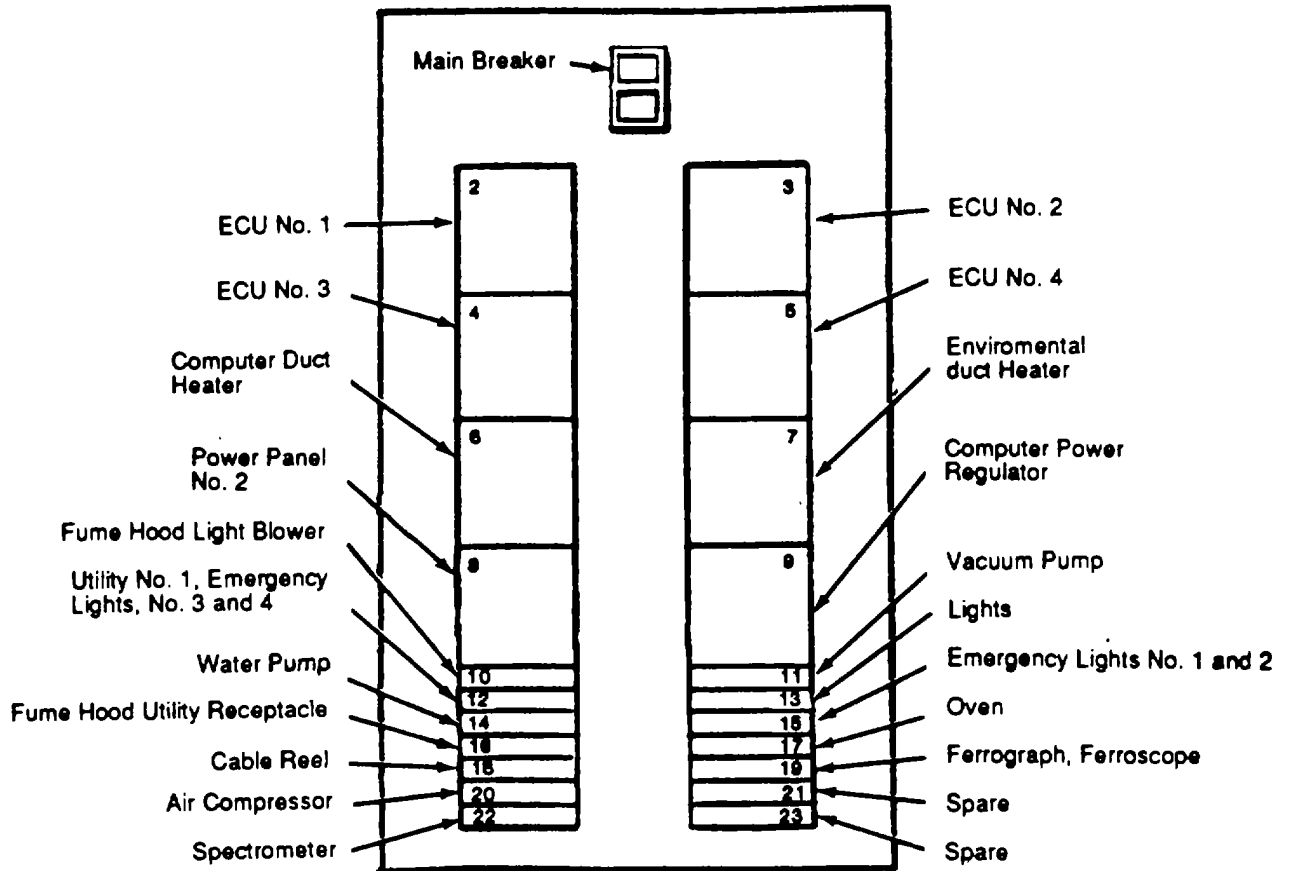
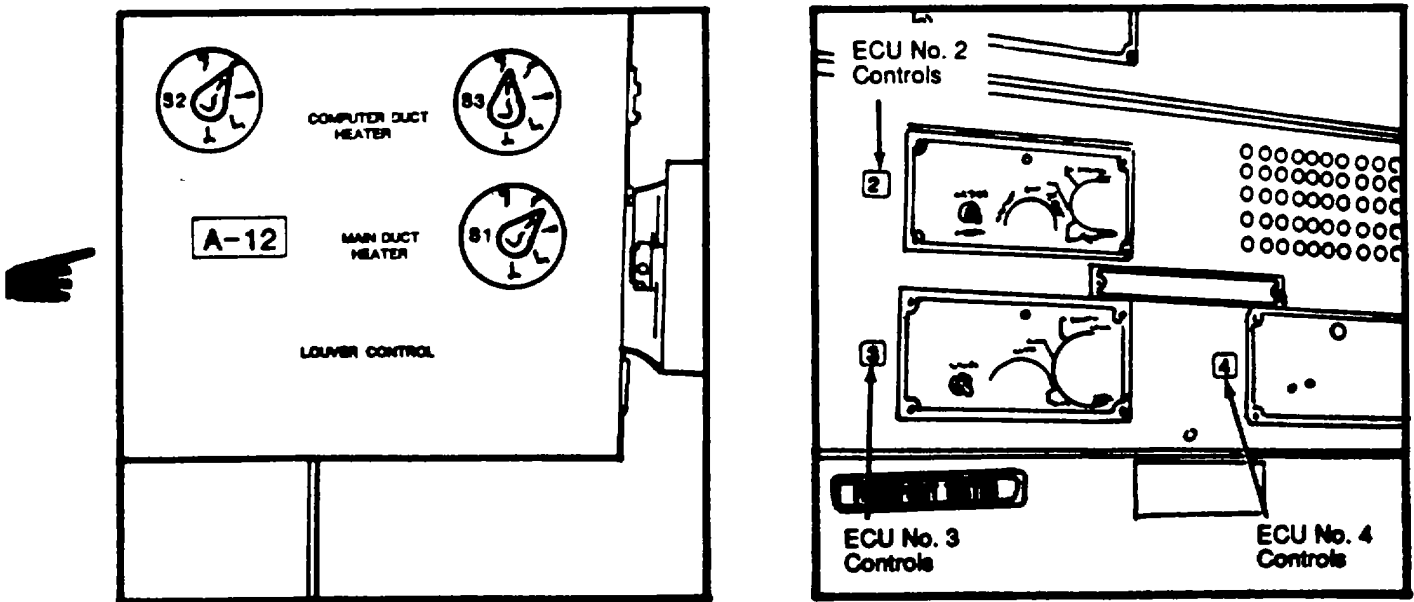
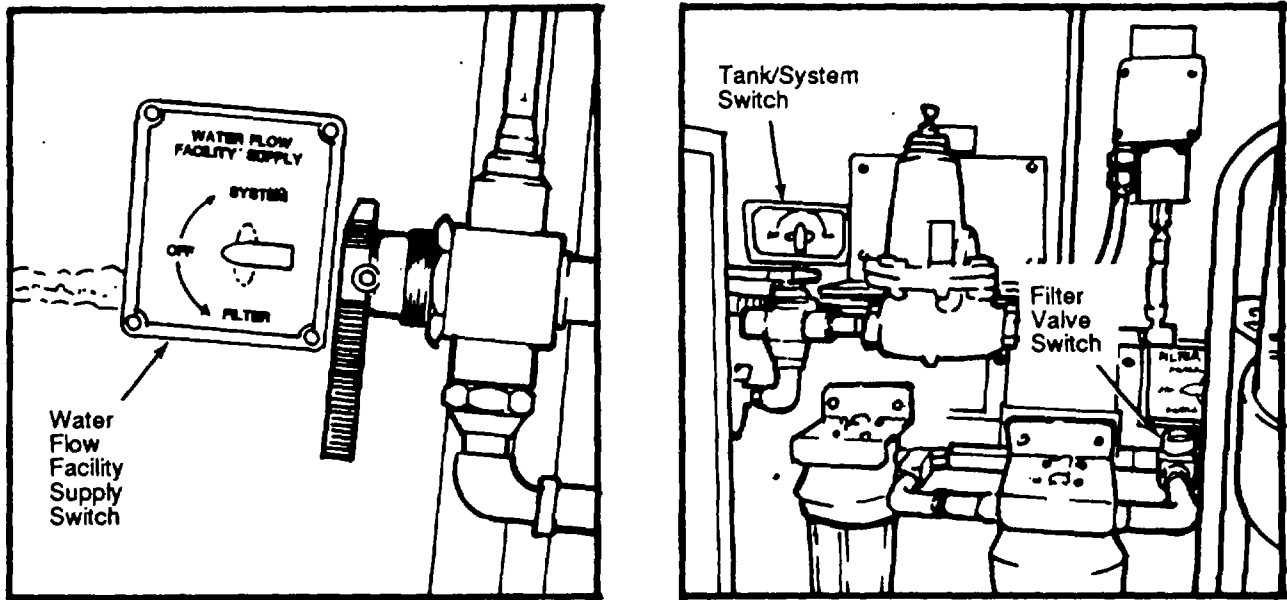
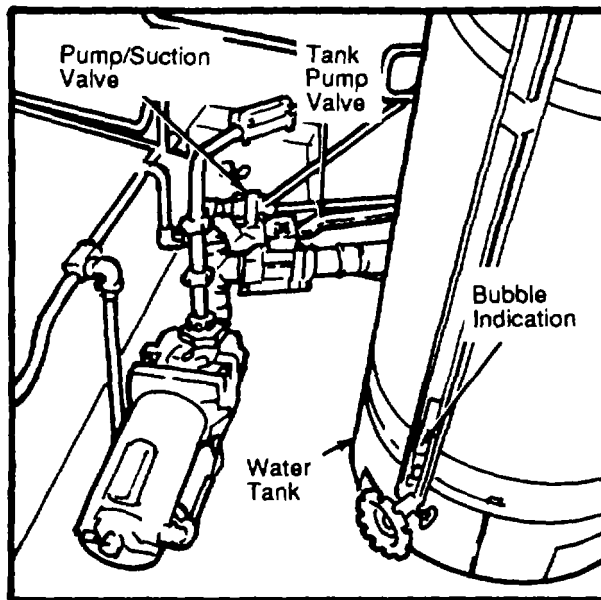

Figure 2-5. Main Power Panel
Figure 2-6. Switches S1, S2, S3 and ECU No. 2, 3, 4 Controls
Figure 2-12. Water System Switches
Figure 2-13. Water Tank and Pump
(3) Switch generator to load conditions and actuate the purge timer located in the power entrance box on the AOAP Mobile Laboratory. The phase indicator green light in the power entrance box should now be on. However, if the red light is on, then set generator to a no-load condition and recheck power cable connections and retry for green phase indicator.
(4) Enter the main laboratory compartment by using the curbside forward door. Unlock the forward door and enter the mechanical room and reset main circuit breaker (Figure 2-5) by turning it to the "on" position.
(5) Turn S2 Switch (Figure 2-6) to the "ON" position prior to turning the computer duct heater breaker on.
(6) Turn S1 Switch to 100 percent, S3 Switch to the "ON" position and ECU NO.2, 3, and 4 controls to the "HIGH" speed setting.
(7) Switch on the circuit breakers in the Main Power Panel (Figure 2-5) as required.
(9) Switch on circuit breaker in Power Panel number 2 as required.
(10) Remove any auxiliary overpack containers from the rear, main and utilities walkways.
(11) Remove any preservation masks, covers, and panels from the laboratory equipment.
(12) Remove any preservative/packing material from the compressor, vacuum pump, water pump, and any other support/services device located in the mechanical room.
(13) As climatic conditions apply, activate the appropriate ECU No. 2, 3, and 4 controls (heating and/or cooling) (Figure 2-6).
**Auxiliary heating elements are located in the supply ducting. At temperature below zero degrees Fahrenheit (F), these elements will activate in conjunction with the main heating system.**
(14) Enable each of the "hard mounted" major items of test equipment by turning their respective power switches to the "ON" position in the following order, as required:
- (1) Close all compressed air system service valves (Refer to Table 2-8).
- (2) Turn on the air compressor circuit breaker No.20 in Main Power Panel (Refer to Figure 2-5).
(3) Momentarily open and close each compressed air service valve to blow dust or other contaminant out of the air lines.
(4) Compressed air system is now operational.
- (1) Close all vacuum system service valves (Refer to Table 2-9).
- (2) Turn on the vacuum pump circuit breaker switch No. 11 in the Main Power Panel (Refer to Figure 2-5).
- (3) Vacuum system is now operational.
(4) Ensure the "TANK/SYSTEM" Switch (Figure 2-12) is in the "TANK" position, the "WATER FLOW FACILITY SUPPLY" Switch is in the "SYSTEM" position, and the "FILTER VALVE" Switch is in the "OFF" position.
(5) Fill the water tank (60 Gallon Capacity) (Figure 2-13) until the bubble indicator reaches the top, which indicates that the tank is full.
- (3) Close the tank/pump valve (Figure 2-13).
- (4) Open the Pump/Suction Valve.
- (5) Turn on the water pump switch located in the main power panel (Figure 2-5) and proceed to fill the tank.
- (6) Close pump/suction valve (Figure 2-13).
- (1) Hook up the garden hose as outlined in paragraph 2-9a above; however, switch the "WATER FLOW FACILITY SUPPLY" to "FILTER" and switch the "FILTER VALVE" from "off" to "FILTER No. 1" (Figure 2-12).
- (2) Proceed to fill the water tank as described in paragraph 2-9a.
- (3) Set the "TANK/SYSTEM" Switch and the "WATER FLOW FACILITY SUPPLY" Switch to "SYSTEM".
- (4) Set the "FILTER VALVE" Switch to "OFF".
- (5) Close the pump suction valve (Figure 2-13).